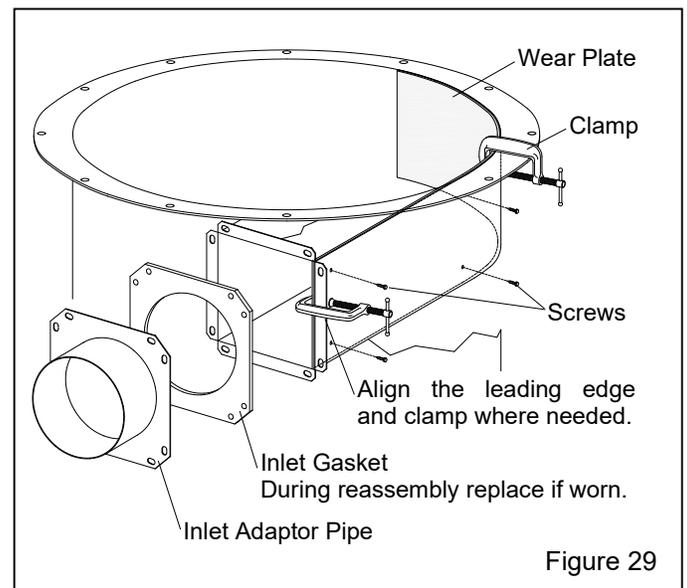

Figure 29
7.8 Replacing Reclaimer Wear Plate – Figure 29 Reclaimer with bolt-on, removable top.